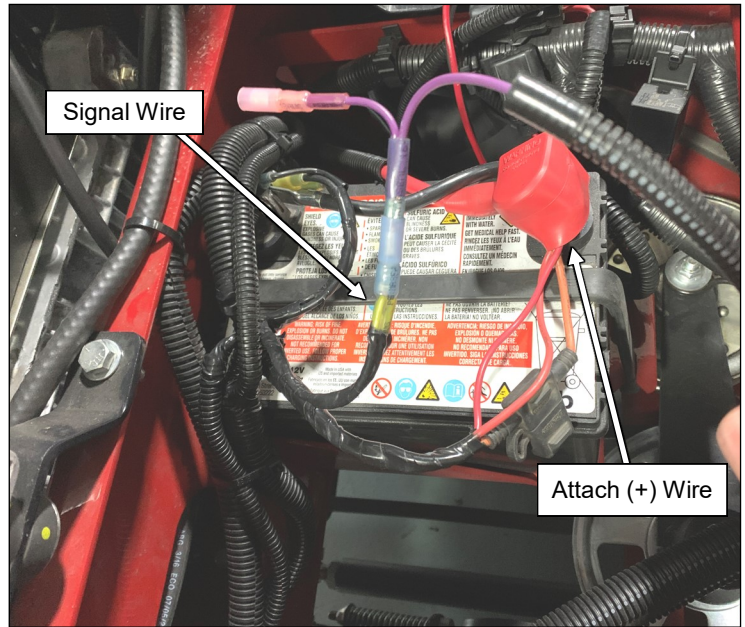

Fig. 1.4 (Connect Positive Wire)
- 1.4 See fig. 1.4. Locate the wire harness in the console kit and connect the ring terminal on the end of the red wire to the positive battery terminal.
- 1.7 Connect male bullet terminal on the purple wire to the cab's signal wire (yellow wire) found near the battery. See Figure 1.4.